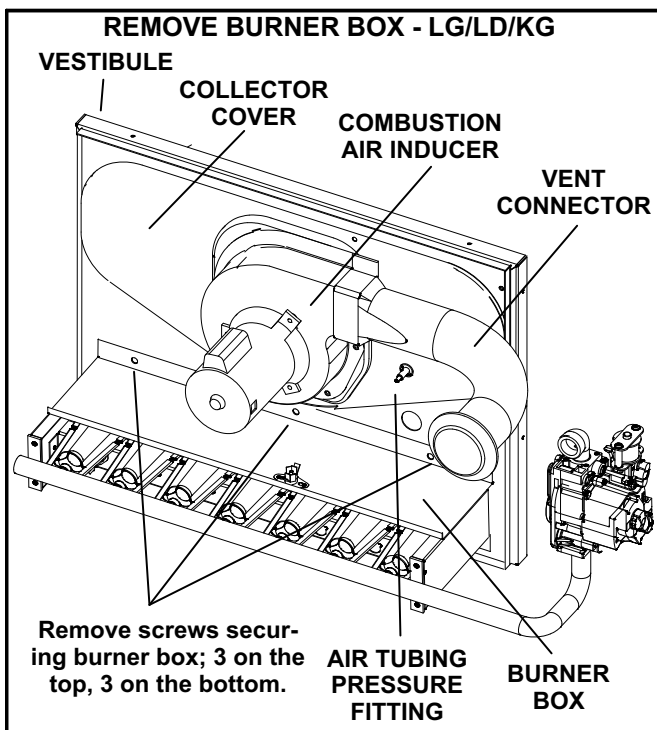

FIGURE 3
- 9- Disconnect the air tubing to the fitting on the vestibule. See figure 3.
- 10- Remove the burner box assembly. Retain six screws holding the assembly in place. See figure 3.
- 11- Remove the vent connector from the combustion air inducer. See figure 3.
- 12- Remove the combustion air inducer. See figure 3.